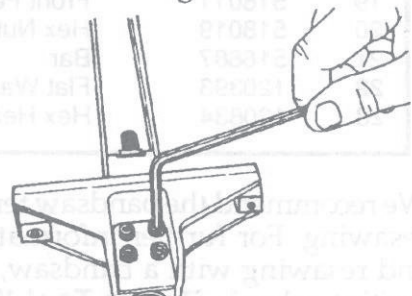

Fig. 8
6. Use a 5/32" Allen wrench to slightly loosen the socket head screws (16) attaching the fence base to the fence, as shown in Fig. 8.